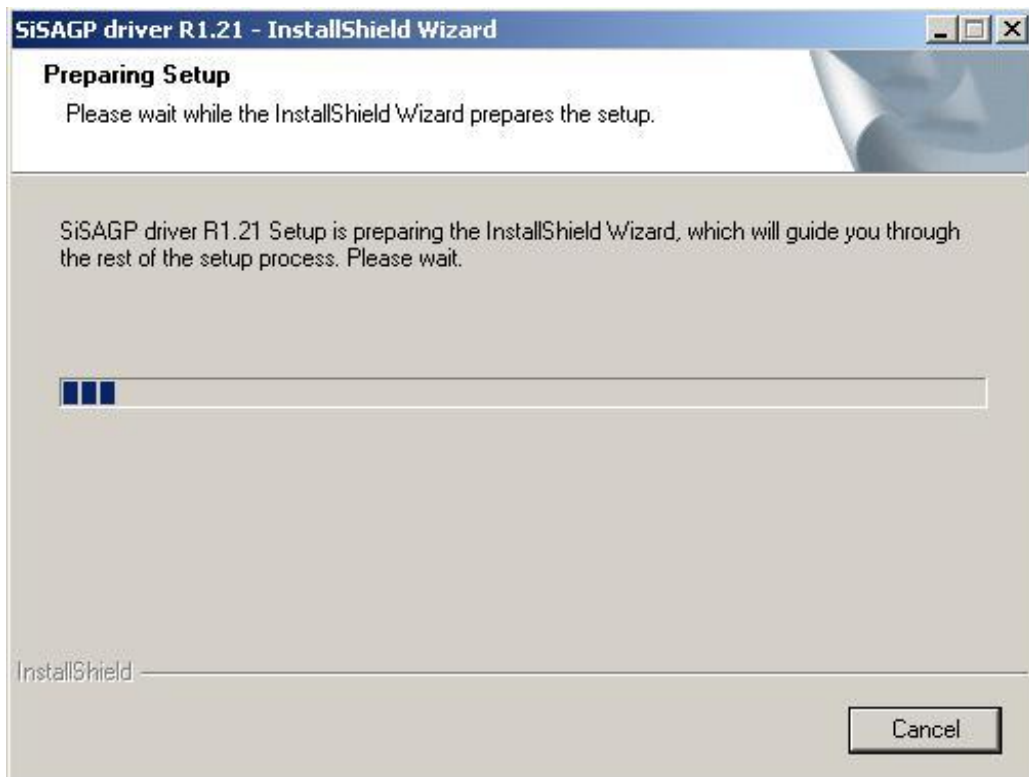

Figure 6-13: Preparing Setup Screen
- Step 4:** The **Preparing Setup** window appears next (**Figure 6-13**).